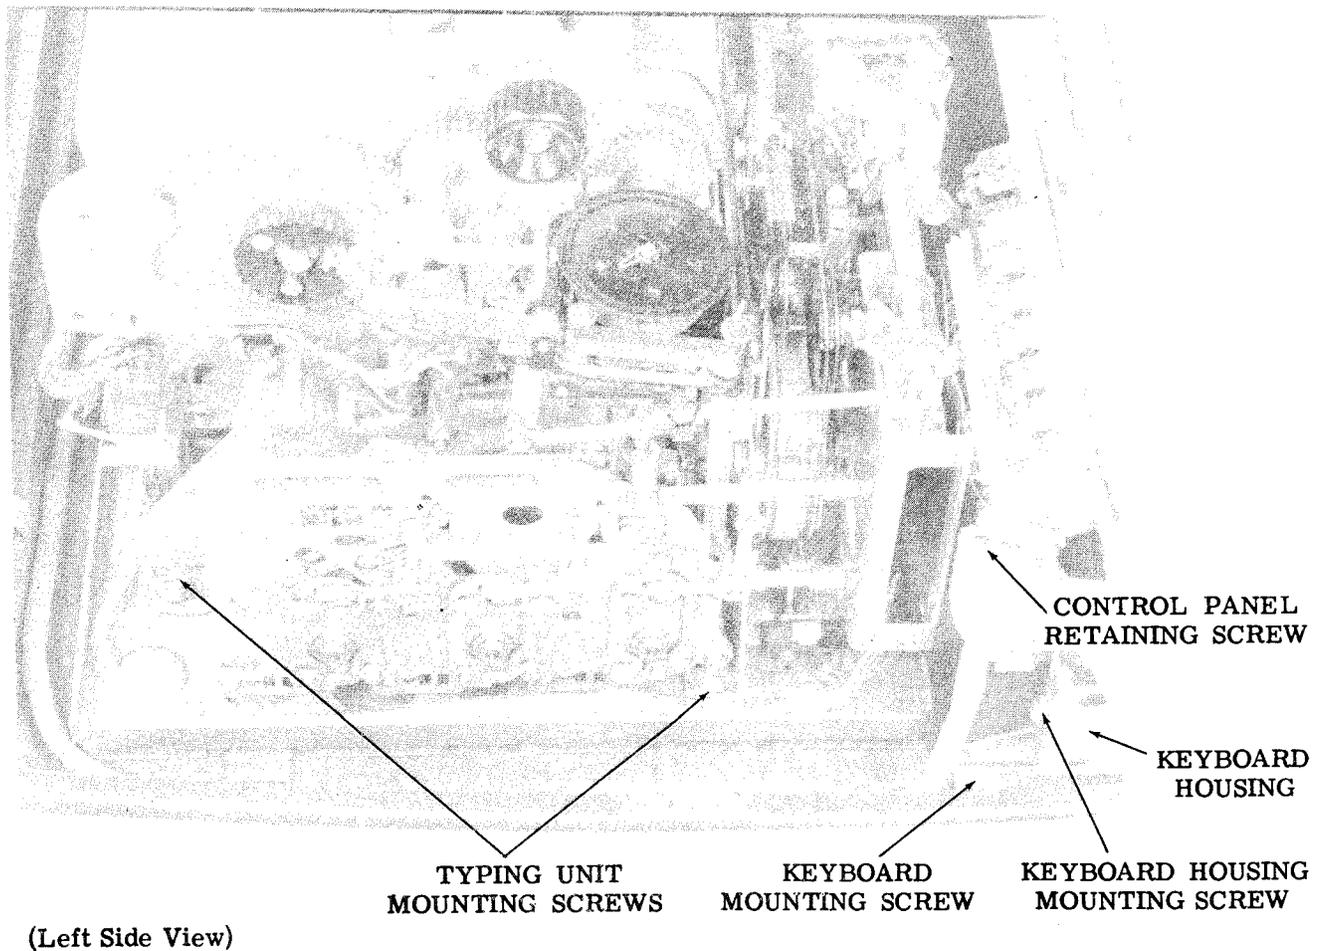

Figure 2 - Typing Unit and Control Panel
- 2.01 To remove the typing unit from the base, proceed as follows (Figures 2 through 4).
2.02 To replace the typing unit, proceed as follows (Figures 2 through 5).
2.03 To remove the control panel, proceed as follows (Figures 2, 3, 6, and 7).
2.05 To remove the keyboard from the base assembly, proceed as follows (Figures 2, 3, and 6).